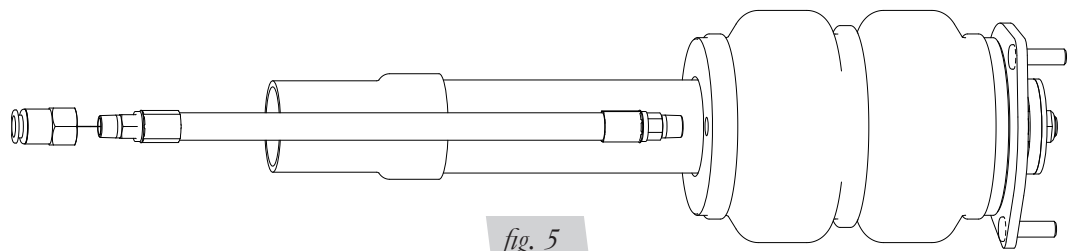

fig. 5
1. Apply Teflon tape or thread sealant onto both end of the braided hose (C) threads and install into the lower of the air spring. Thread the braided hose in hand tight and torque 1-3/4 turns beyond hand tight (fig. 5). Install the fitting (D) onto the end of the braided hose hand tight and torque 1-3/4 turns beyond hand tight.